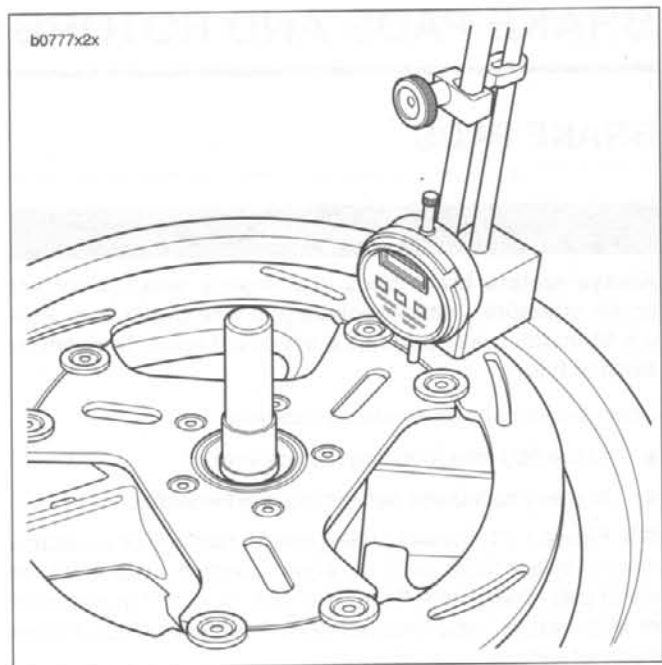

Figure 1-23. Dial Indicator
1. See Figure 1-23. Mount a dial indicator on front wheel. Base of indicator should rest on brake rotor, while indicator tip should be positioned on carrier between one set of drive pins.